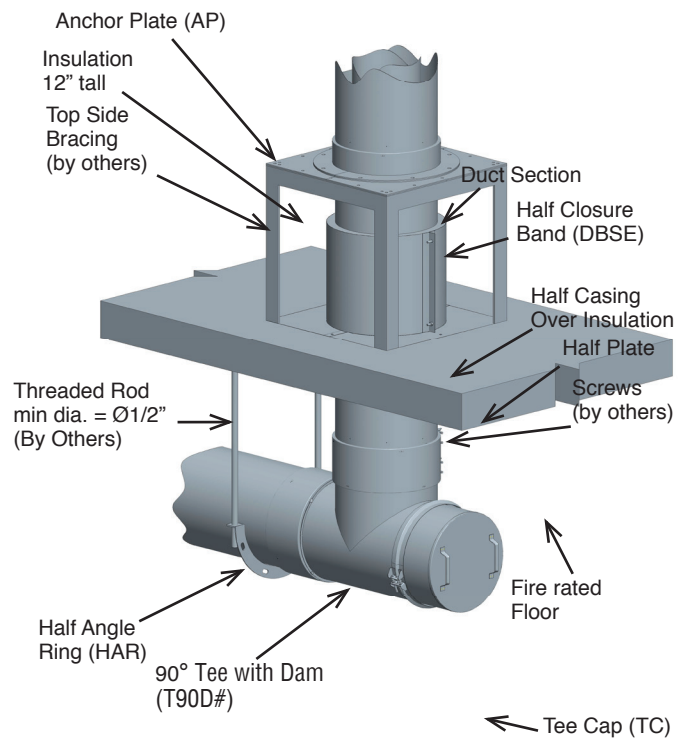
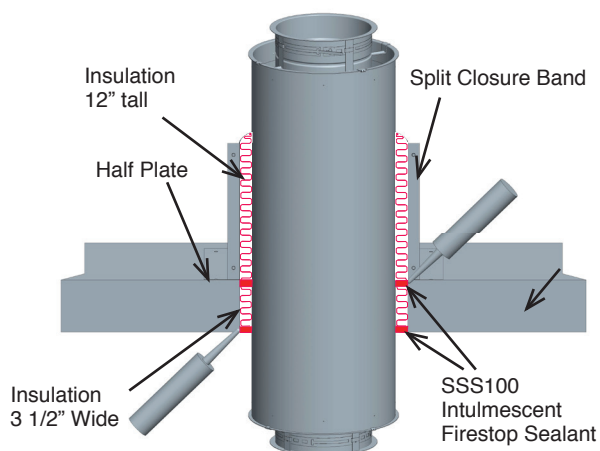

Figure 107: Supports for Duct passing through a fire-rated Floor-Ceiling (CIX3Z only)
Figure 109: Through Penetration Firestop fire-rated Floor Penetration (CIX3Z only)
Supports for ducts that penetrate a fire-resistant floor are to be positioned on the top side of the floor. Include supports as per the height limits in **Table 5** and use either an Anchor Plate (AP) or an Anchor Plate with Length (APL) installed above structural framing members as shown in **Figure 107**. Where a transition from horizontal to vertical occurs beneath a floor / ceiling assembly, support the horizontal portion beneath the floor using Half Angle Rings (HAR) with a minimum 1/2" dia. threaded rod. Install one HAR on the section adjacent to the Tee and include additional Half Angle Rings (or other, appropriate supports) for the horizontal portion of the system in accordance with **Table 7**.
NOTE:- For Floor Penetration, use one TPFK. See **Figure 109** and **Figure 107**.
4. Apply a minimum 1/2" depth of **S-TPFS** (SSS100 from SpecSeal), flush with both surfaces of the wall. See **Figure 109**.